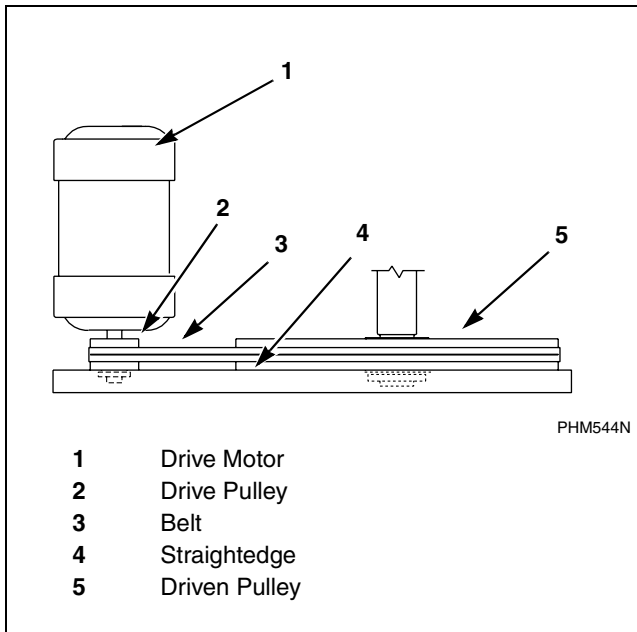

Figure 12
- Verify that V-belts are properly aligned by checking pulley alignment. Place a straightedge across both pulley faces. The straightedge should make contact with the pulleys in four places. Refer to *Figure 12*.